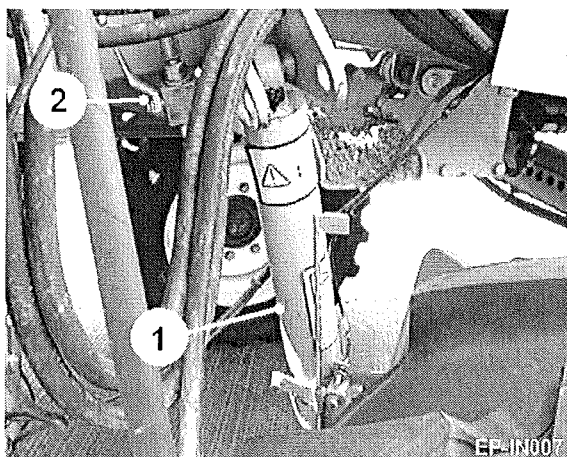

Fig 21
The rear axle is fitted with steerable wheels with the RH wheel linked to the chassis by a hydraulic ram (item 1, figure 21) which allows the harvester to be levelled relative to the ground. Control of the steering and levelling is from the in-cab control box. The joystick 'Axle Level' raise ▲ and lower ▼ operates the levelling ram.
Ensure the transport lock valve (item 2, figure 21) fitted to the levelling ram is open before operating.